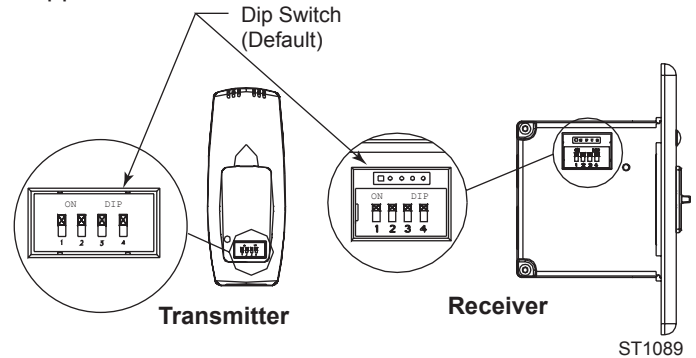

Fig. 59 The switches on the transmitter and receiver must match.
1. Slide the code switches on the transmitter and receiver to choice of ON or OFF position. Switches #1, #2, #3 and #4 are preset to “ON” for both the transmitter and receiver. (Fig. 59)
**WARNING:** Do not use two (2) or more remote control systems in the same area with the same dip switch settings, they will communicate with each other. This may cause the appliances to malfunction.